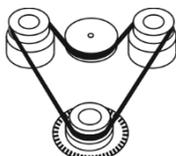

Fig. 5. Belt replacement
- 7.2.1. **Replacing Drive belt.** For the maintenance of reliable operation of the device Grant recommends to replace the rubber belts after 1.5 years or 2000 hours of operation time. Disconnect the external power supply unit from the device. Remove 4 fixation screws on the device base and remove the bottom plate. Replace the rubber drive belt (fig. 5). Reassemble the device.